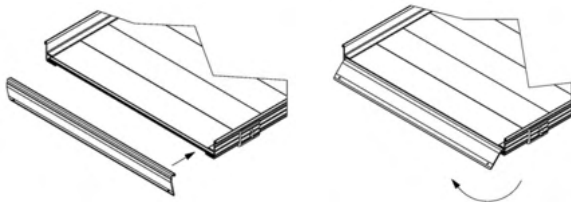

FIG. 3.15
- 3.6.4. Place the upper end of the ramp onto supporting surface, i.e., platform, porch, etc. Once the ramp is resting on the porch or platform, lift the upper end of the ramp and install the PRUT (RAMP UPPER TRANSITION) into what will be the upper end of the ramp (FIG. 3.15) and the PRGT (RAMP GROUND TRANSITION) into what will be the lower end of the ramp.